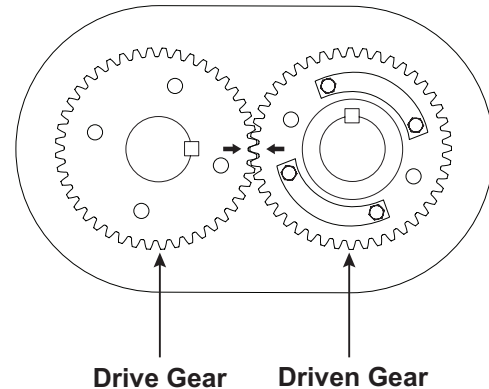
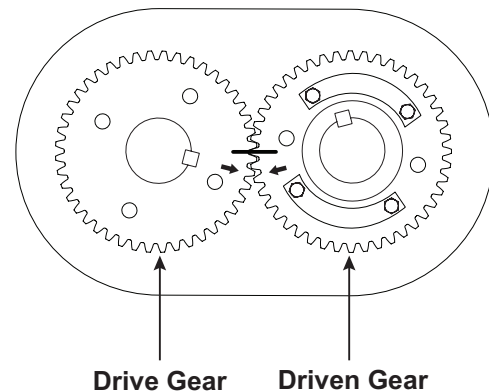

Figure 8-2 – Timing Marks Matched
Figure 8-3 – Timing Marks Advanced 3 Teeth (Reference Marks Aligned)
1. Make sure all parts are clean and free of nicks or burrs caused by disassembly. See **Figure 8-2** and **Figure 8-3 on page 34** for dimension of seal pressing tools.